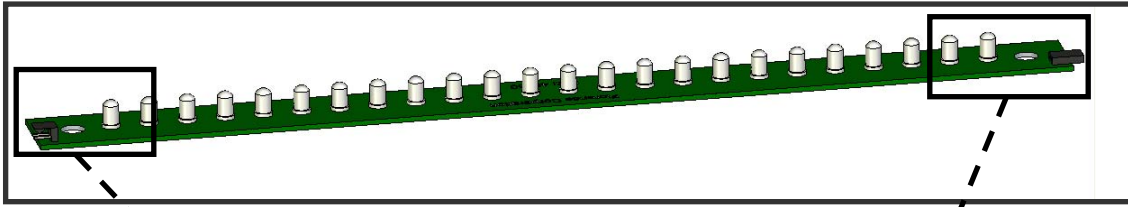

Figure 17
- a) Before installing 48130 LED strips, familiarize yourself with the features of the strip. See Figures 17 through 19.